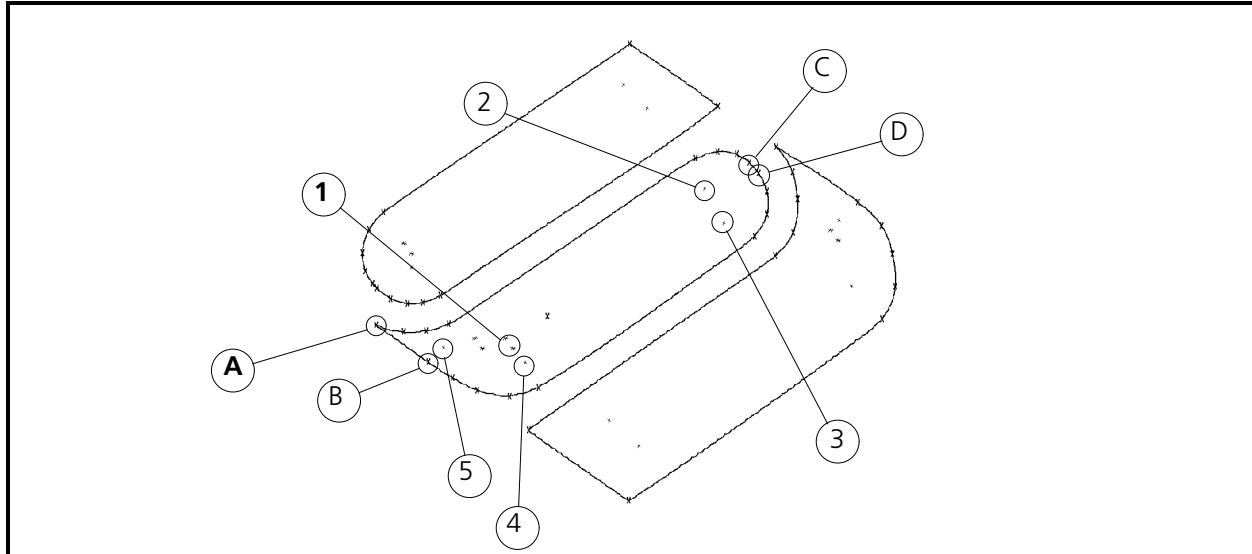

Figure 6-75
1. Near point D in the first fill, generate a lock stitch pattern, then add the needle up / normal stitch functions to go to point 1 in the middle section of the logo as shown in Figure 6-75.
2. Put in a lock stitch pattern and generate underlay stitches with Mk1s at points 2, 3, 4, and 5 in Figure 6-75.
5. Now move to point A in Figure 6-75 and enter a Mk1 to start this fill.
6. Move to point B in Figure 6-75 and enter another Mk1. You have just defined the first line of the middle fill.
7. Enter Mk1s at C and D in Figure 6-75 to define the last line of the fill. Notice that this line is the shorter of the two so line A-B will determine the direction of stitching.